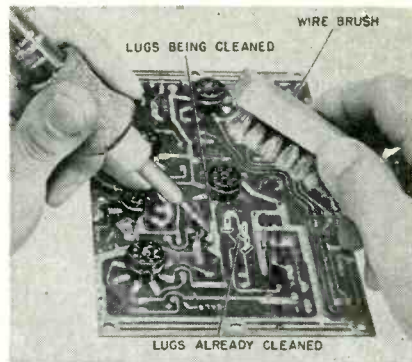

Fig. 6—Removing defective can-mounted transformer.
1. Apply the soldering iron to one of the connecting lugs. See Fig. 6.